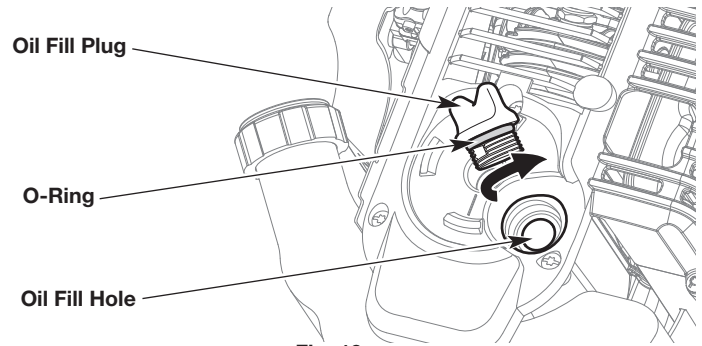

Fig. 10
2. Unscrew the oil fill plug (Fig. 10).
3. Pour 3.04 fluid oz. (90 ml) of oil into the oil fill hole (Fig. 10).
5. Make sure the O-ring is in place on the oil fill plug (Fig. 10).